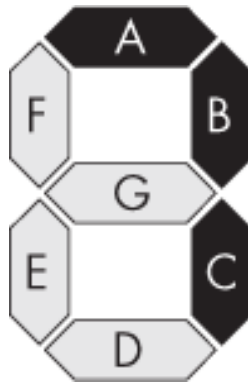

Figure 8-6: Illuminating a 7 on a seven- segment display
This module takes a 4-bit binary input ❶ and uses seven outputs to light up the appropriate segments in the display, given the input. The case statement ❷ captures all possible inputs, from 0000 to 1111 (0 through 15), and translates each number into the correct output pattern using the 7-bit `r_Hex-Encoding` register. Each bit in the register maps to one of the segments in the display: bit 6 maps to segment A, bit 5 maps to segment B, and so on. To see how this works, let's consider a specific input—say, 0111, which is the digit 7—as an example. Figure 8-6 illustrates how to illuminate a seven-segment display to show this digit.